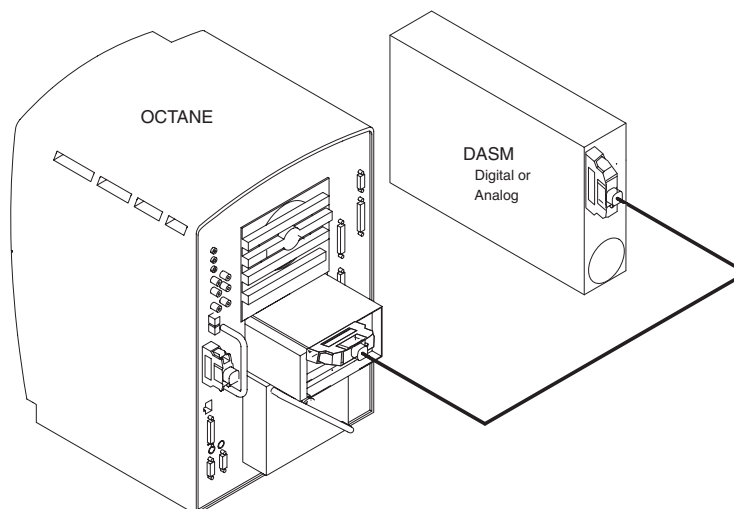

Figure 2-14 SCSI Cable Connection for DASM
- 6.) Attach the free end of the SCSI cable to the rear of the Host Computer (see Figure 2-14).